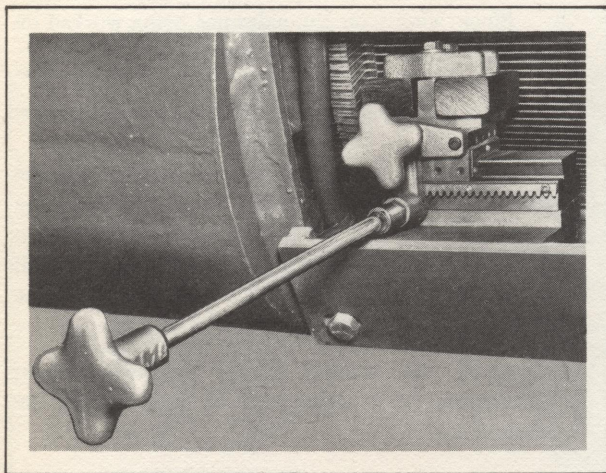

FIG. IV-15. MIDGET COMMUTATOR GRINDER INSTALLED IN GE752 MOTOR.
- d. Place the two jam nuts (9) on the set screws (8) and screw them into the tapped holes in corners of the base of the mounting bracket. These adjust the position of the grinder with respect to the commutator.
- e. Install medium-grade resurfacing stones in the grinder, Fig. IV-15.